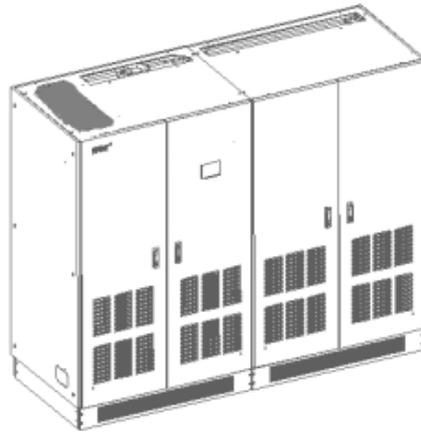

Fig. 3-16: View of parallel placement of the rectifier cabinet and the inverter cabinet of This series (400-500kVA) UPS
1. Place in parallel. The rectifier cabinet and the inverter cabinet are placed in parallel, as shown in Fig. 3-16. When placing the cabinets, there should not be a gap between the two cabinets, and the front and back of the two cabinets should be kept at the same level.